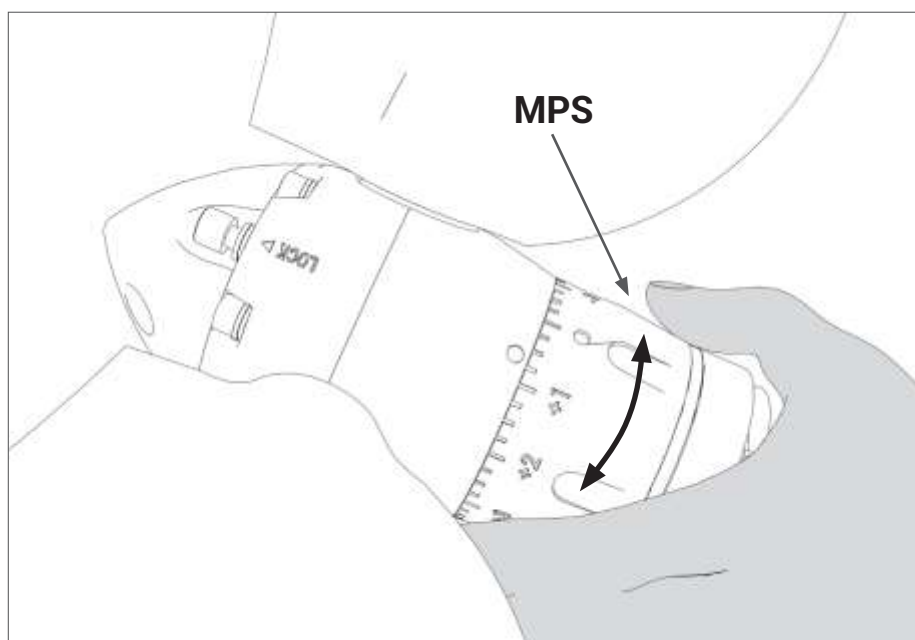

FIG. 25 Pitch adjustment
- To adjust the pitch at the desired value, turn the ring nut while precisely aligning the selected notch with the symbol "O" on the propeller body (Fig. 25).